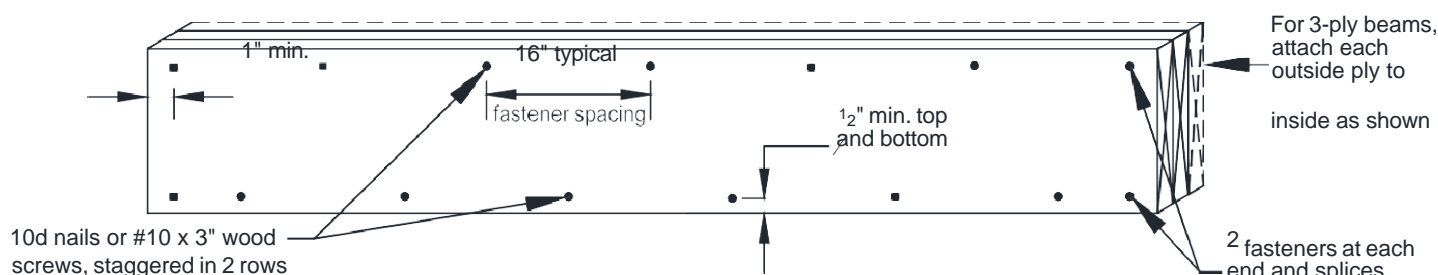

FIGURE 13: BEAMPLY FASTENING
- The plies of the beam shall be fastened in accordance with FIGURE 13.